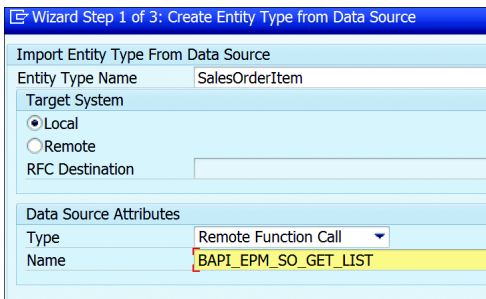
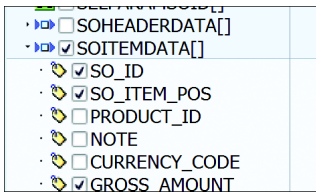

Figure 19.108 Add SalesOrderItem Entity
Figure 19.109 Item Fields
- Repeat the steps to add a SALESORDERITEM entity, as shown in Figure 19.108. Name the entity SALESORDERITEM and select fields from the SOITEMDATA[] structure, as shown in Figure 19.109.